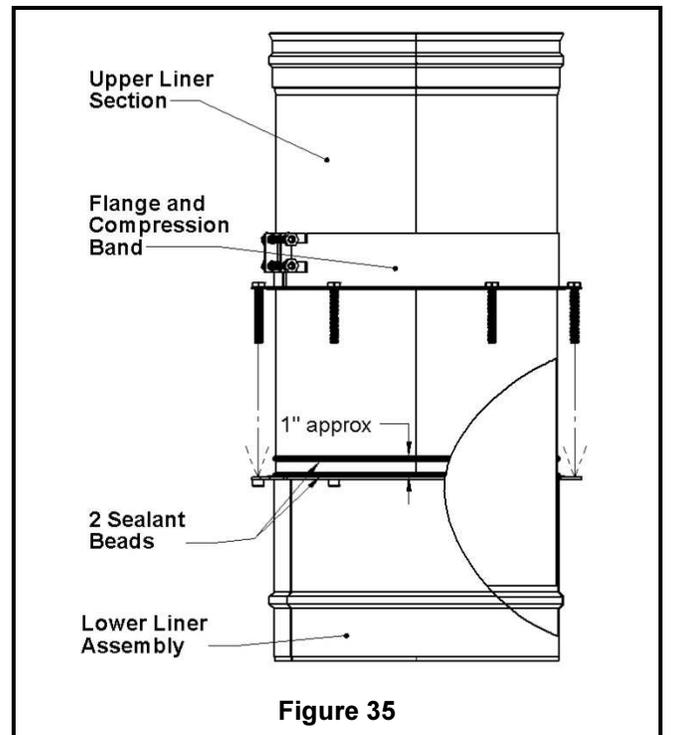

Figure 35
5. Apply 2 beads of sealant all around the upper liner section. The first one 1" above the bottom flange and the second right where the inner liner meets the lower flange (see **Figure 35**)